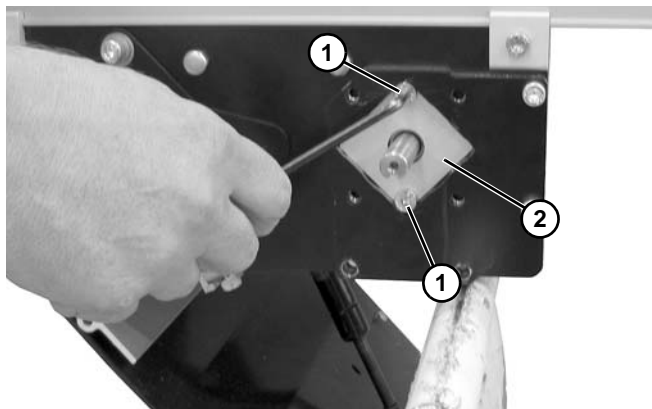

Figure 53
1. Remove screws (Figure 53, item 1) and remove spindle bearing block (Figure 53, item 2).